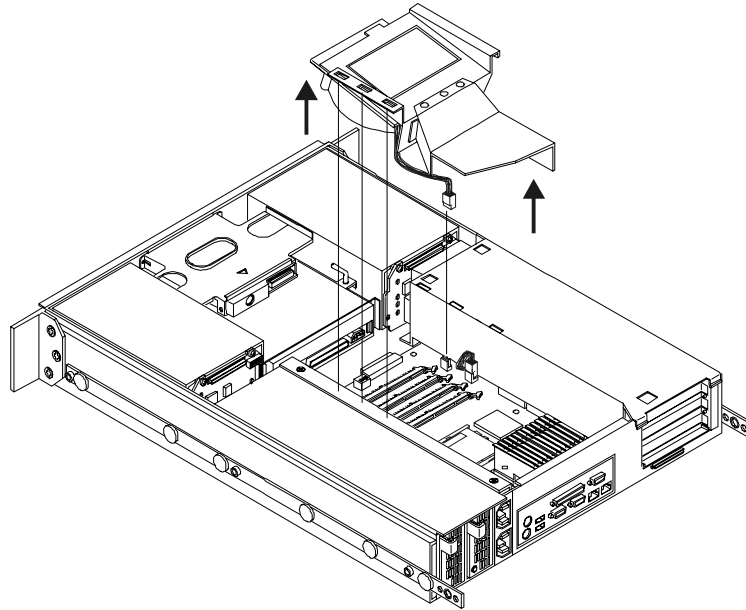

Figure 4-1. Removing the Air Flow Guide
5. Remove the air flow guide. See Figure 4-1.